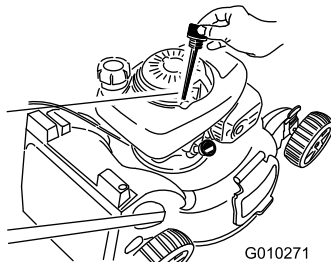

Figure 38
2. Remove the dipstick (Figure 38).